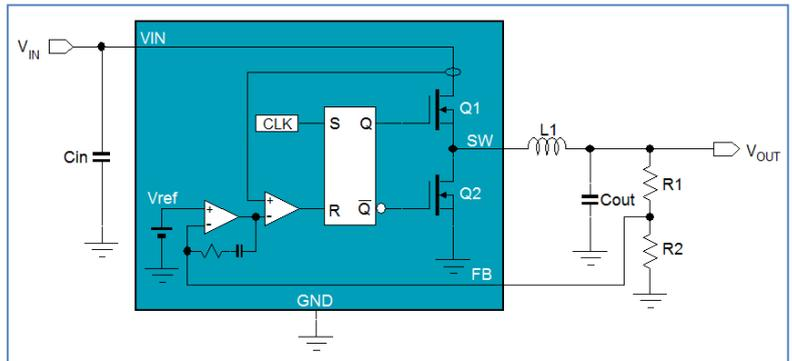

Figure 1. Buck converter basic circuit
**Buck converters** are switch-mode step-down converters which can provide high efficiency and high flexibility at higher  $V_{IN}/V_{OUT}$  ratios and higher load current. The basic circuit is shown in Figure 1. Most Buck converters contain an internal high-side MOSFET Q1 and low-side synchronous rectifier MOSFET Q2, which are in turn switched on and off via internal duty-cycle control circuit to regulate the average output voltage. The switching waveform is filtered via an external LC filter stage. A feedback loop senses the output voltage and controls the duty-cycle of the high-side MOSFET, thereby regulating the output voltage. Asynchronous parts do not have an internal low-side MOSFET, and need an external Schottky diode from switch node to ground. Due to the fact that the MOSFETs are either ON or OFF, they dissipate very little power, and the duty-cycle control makes large  $V_{IN}/V_{OUT}$  ratios possible. The internal MOSFETs  $R_{DS(ON)}$  mainly determines the current handling capabilities of the Buck converter, and the MOSFET voltage ratings determine the maximum input voltage.